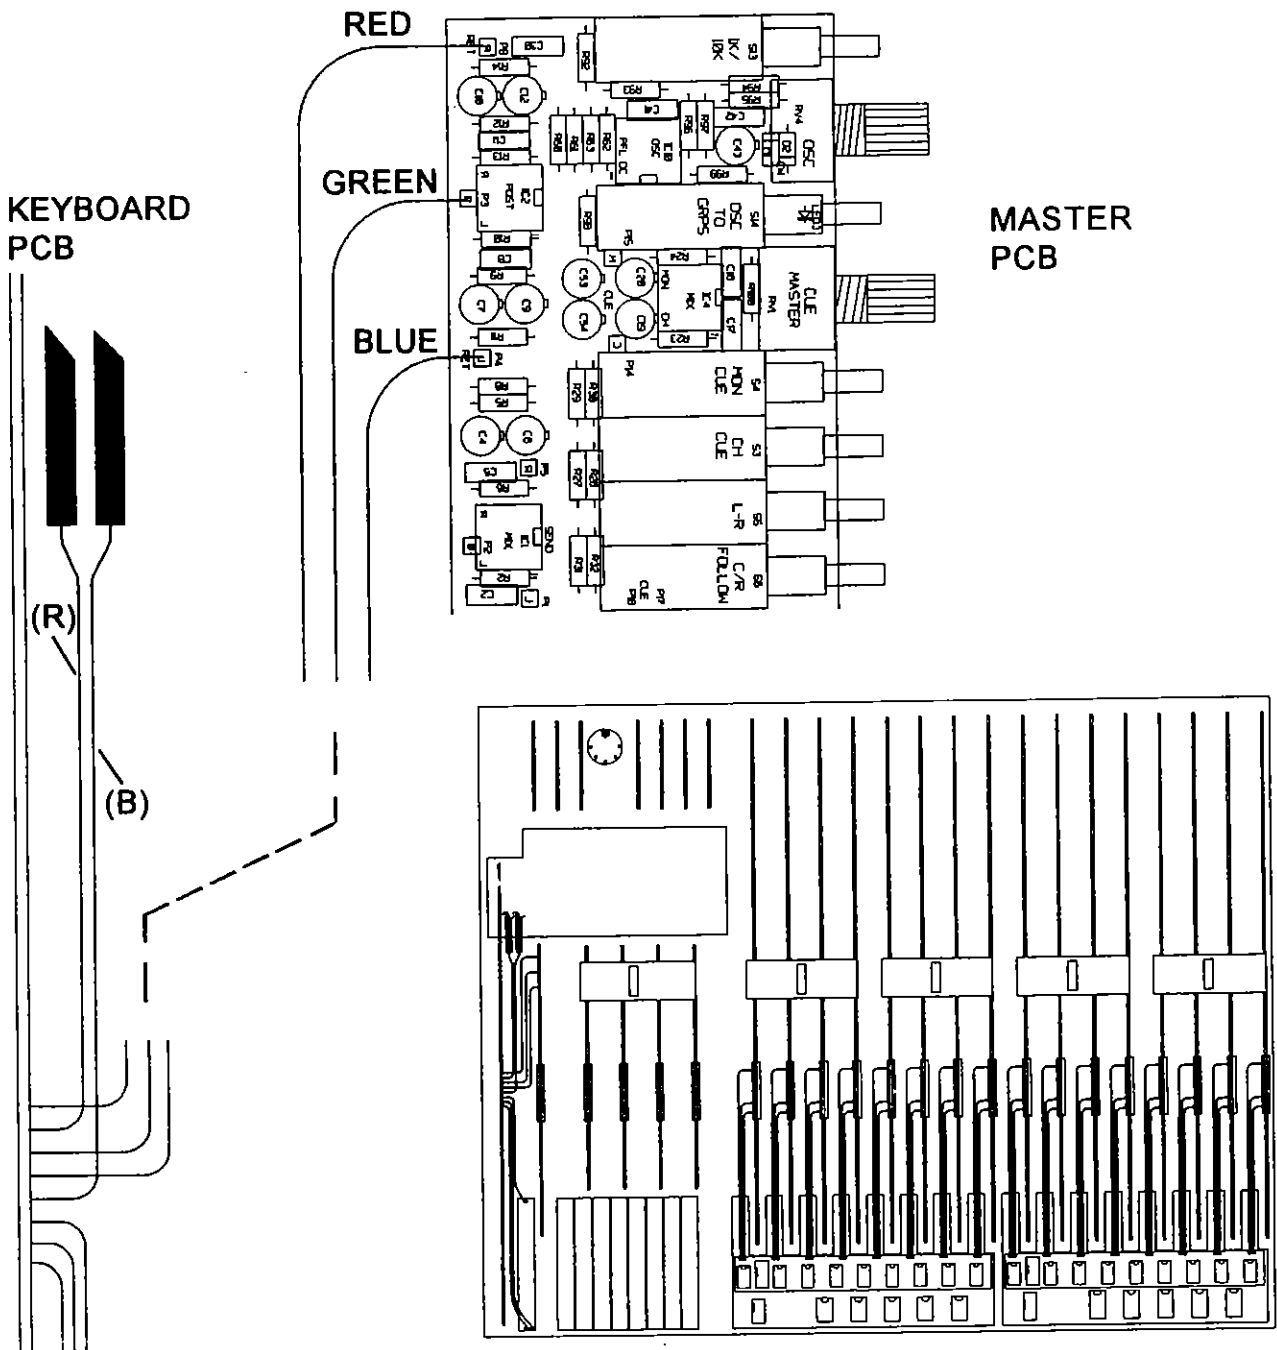

Fig. 11b.
2. Solder the shorter Red, Green & Blue wires from the Keyboard PCB onto the Master PCB as shown, see Fig. 11b.
3. Locate the Red (R) and Blue (B) wires that were previously wired to the top of the left & right Master faders. Cut off a length approx. 150mm from the end of each wire. (150mm is roughly the width of this page). Strip & tin the ends of the remaining wires. Solder both wires into the Keyboard PCB as shown. see Fig. 11b.